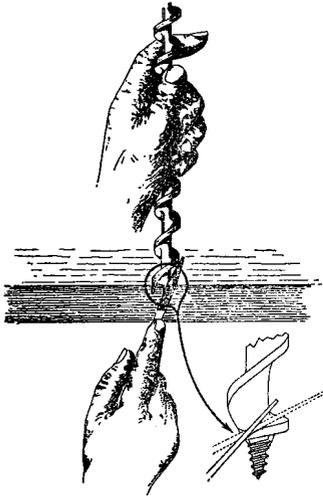

FIGURE 9.
- (4) *Resharpener Cutter*—Hold the bit in the left hand with the point down, resting the top of the screw point against the edge of a bench or other suitable support so that the cutting edge is parallel with the edge of the bench or other support. Using light strokes, sharpen the cutting edge to a straight line with an auger bit file, keeping the bevel practically the same as it was when the bit was new. See Figure 9.